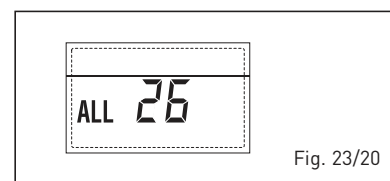

Fig. 23/20
– **ANOMALIE COHERENCE APPLICATION SOLAIRE “ALL 27”** (fig. 23/21)